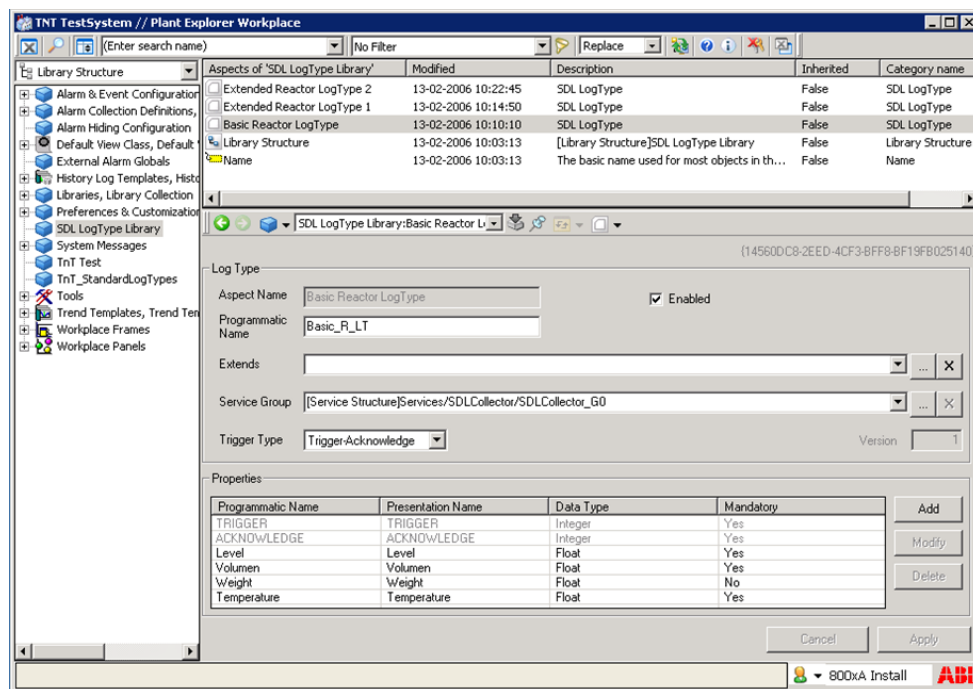

Figure 12. SDL Log Type Aspect
1. Add a SDL LogType aspect to the Library structure and define the desired record layout (Figure 12).